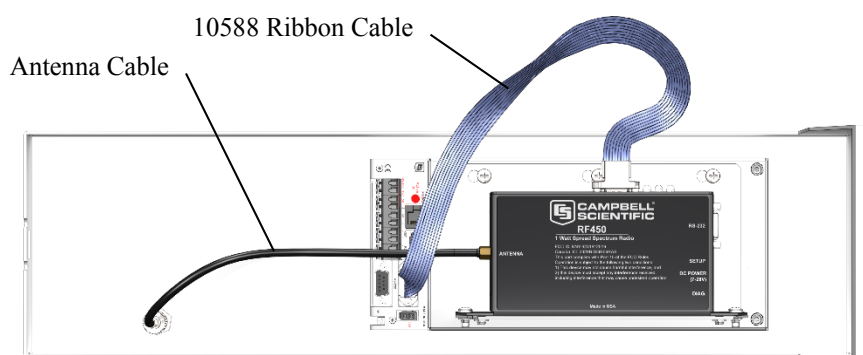

FIGURE 2-27. RF450 in T107 (battery not shown)
1. Mount the RF450 bracket and radio into the ET enclosure using the three existing screws. See FIGURE 2-27.
2. Thread the smaller SMA connector end of the enclosure antenna cable underneath the battery cables and screw it to the RF antenna connector on the RF450 radio. Attach the other end of the cable to the BNC RF bulkhead connector in the lower right hand corner of the enclosure. Make sure all connections are tight. See FIGURE 2-27.